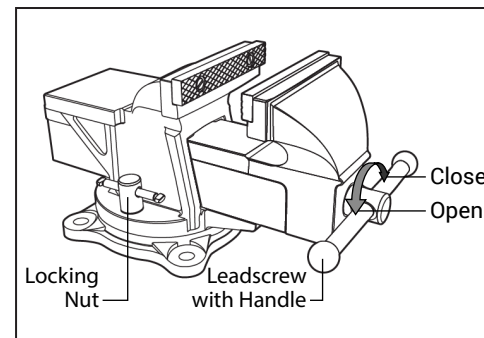

Fig. 3
2. Rotate the leadscrew with handle counterclockwise to open the jaws. Place workpiece inside of jaws in desired position. Rotate the handle clockwise to tighten the jaws and firmly secure your workpiece. See Fig. 3.